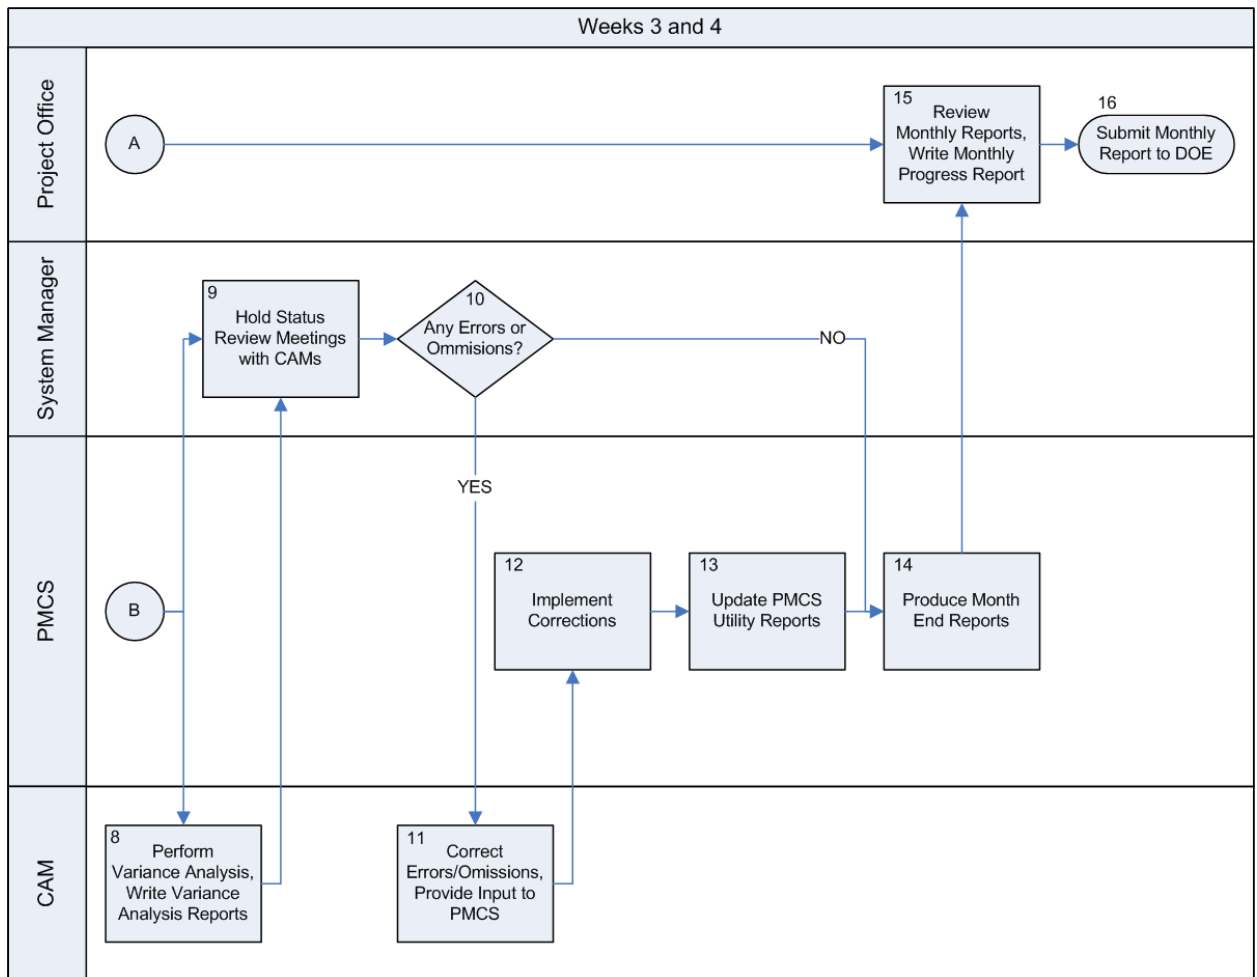

Figure 2. Perform Analysis and Produce Reports
- Figure 2. Perform Analysis and Produce Reports 6